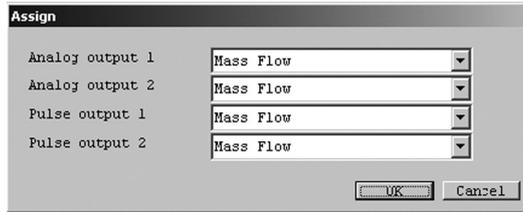

Fig.23
- ① Click the "Setup (S)" menu, and then select and click "Analog/Pulse Assign" from the "Outputs" drop-down list.
- ② The following window will be displayed (Fig. 23). Assign analog output 1 and 2 here, as well as pulse output 1 and 2.